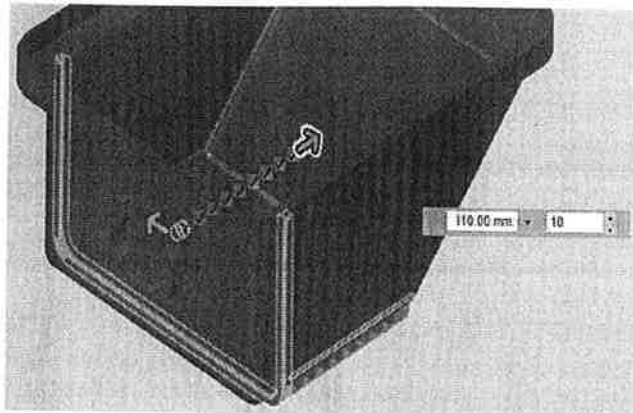

Figure 13–15
10. Change the top *Distance* value to **110 mm**. The model displays as shown in Figure 13–15.